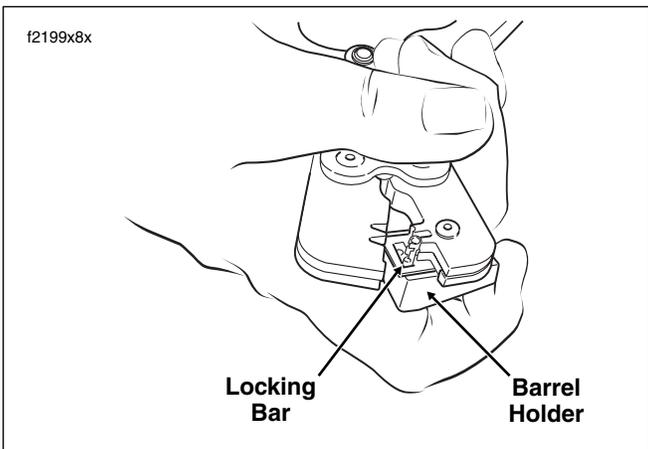

Figure 8-31. Position Contact in Crimper
7. Release locking bar to lock position of contact. When correctly positioned, the locking bar fits snugly in the space at the front of the core crimp tails and the closed side of the terminal rests on the outer nest of the crimp tool. See Figure 8-31.